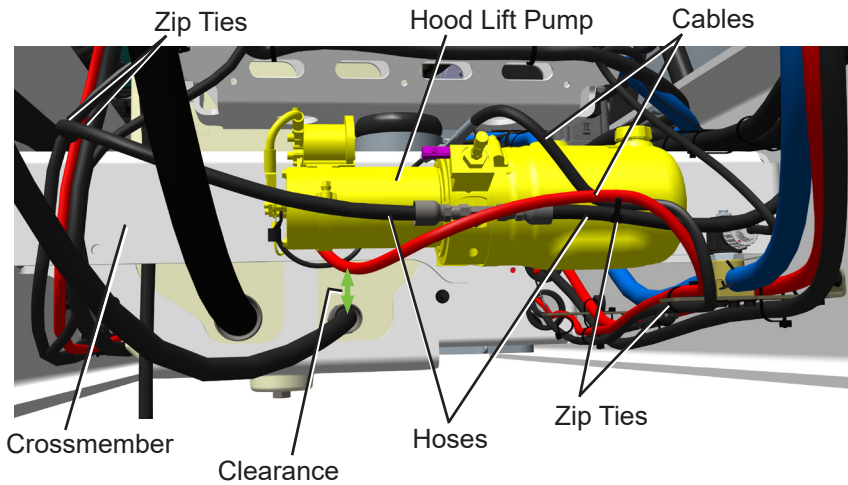

Figure 7
16. Inspect hood lift pump cables and hoses for signs of wear. Replace any cable(s) and hose(s) that show signs of wear. See Figure 7.
17. Make sure hood lift pump cables and hoses are routed and secured correctly. See Figure 7.
18. Make sure there is clearance between hood lift pump positive cable and hydraulic tank return hose. See Figure 7.